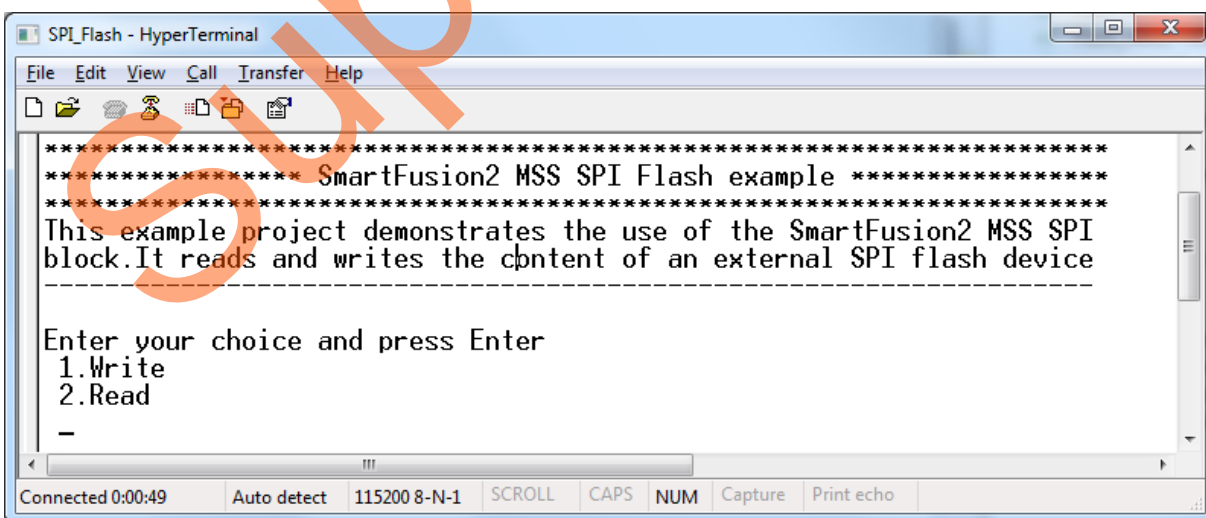

Figure 30 • HyperTerminal Window
6. Run the application by clicking **Run > Resume**. A greeting message on the HyperTerminal is displayed as shown in Figure 30.